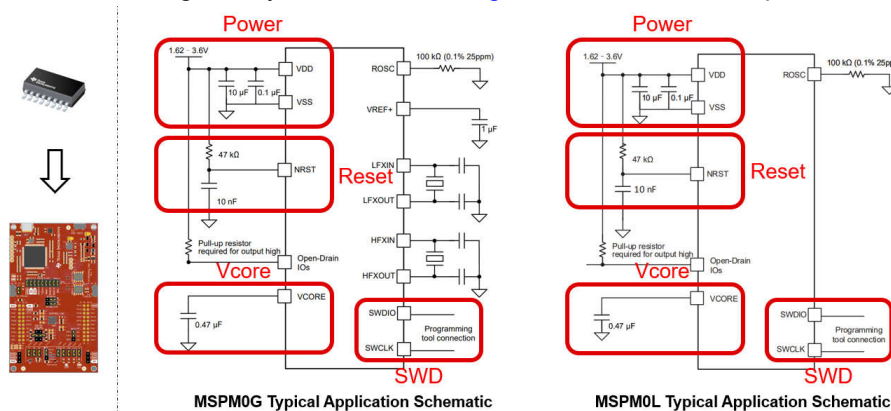

Figure 2-35. MSPM0 Minimum System
3. As for MSPM0 hardware design into your own board. Figure 2-35 shows a sample minimal system design.